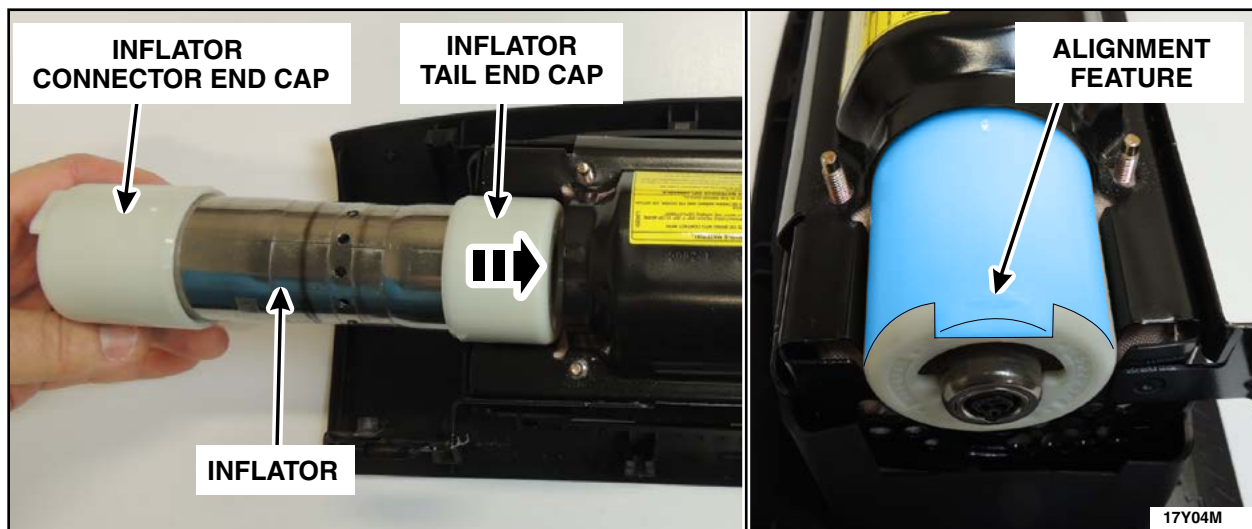

FIGURE 15
9. Install inflator into air bag assembly with connector end facing out, so that the alignment feature is aligned directly facing up. See Figure 15.